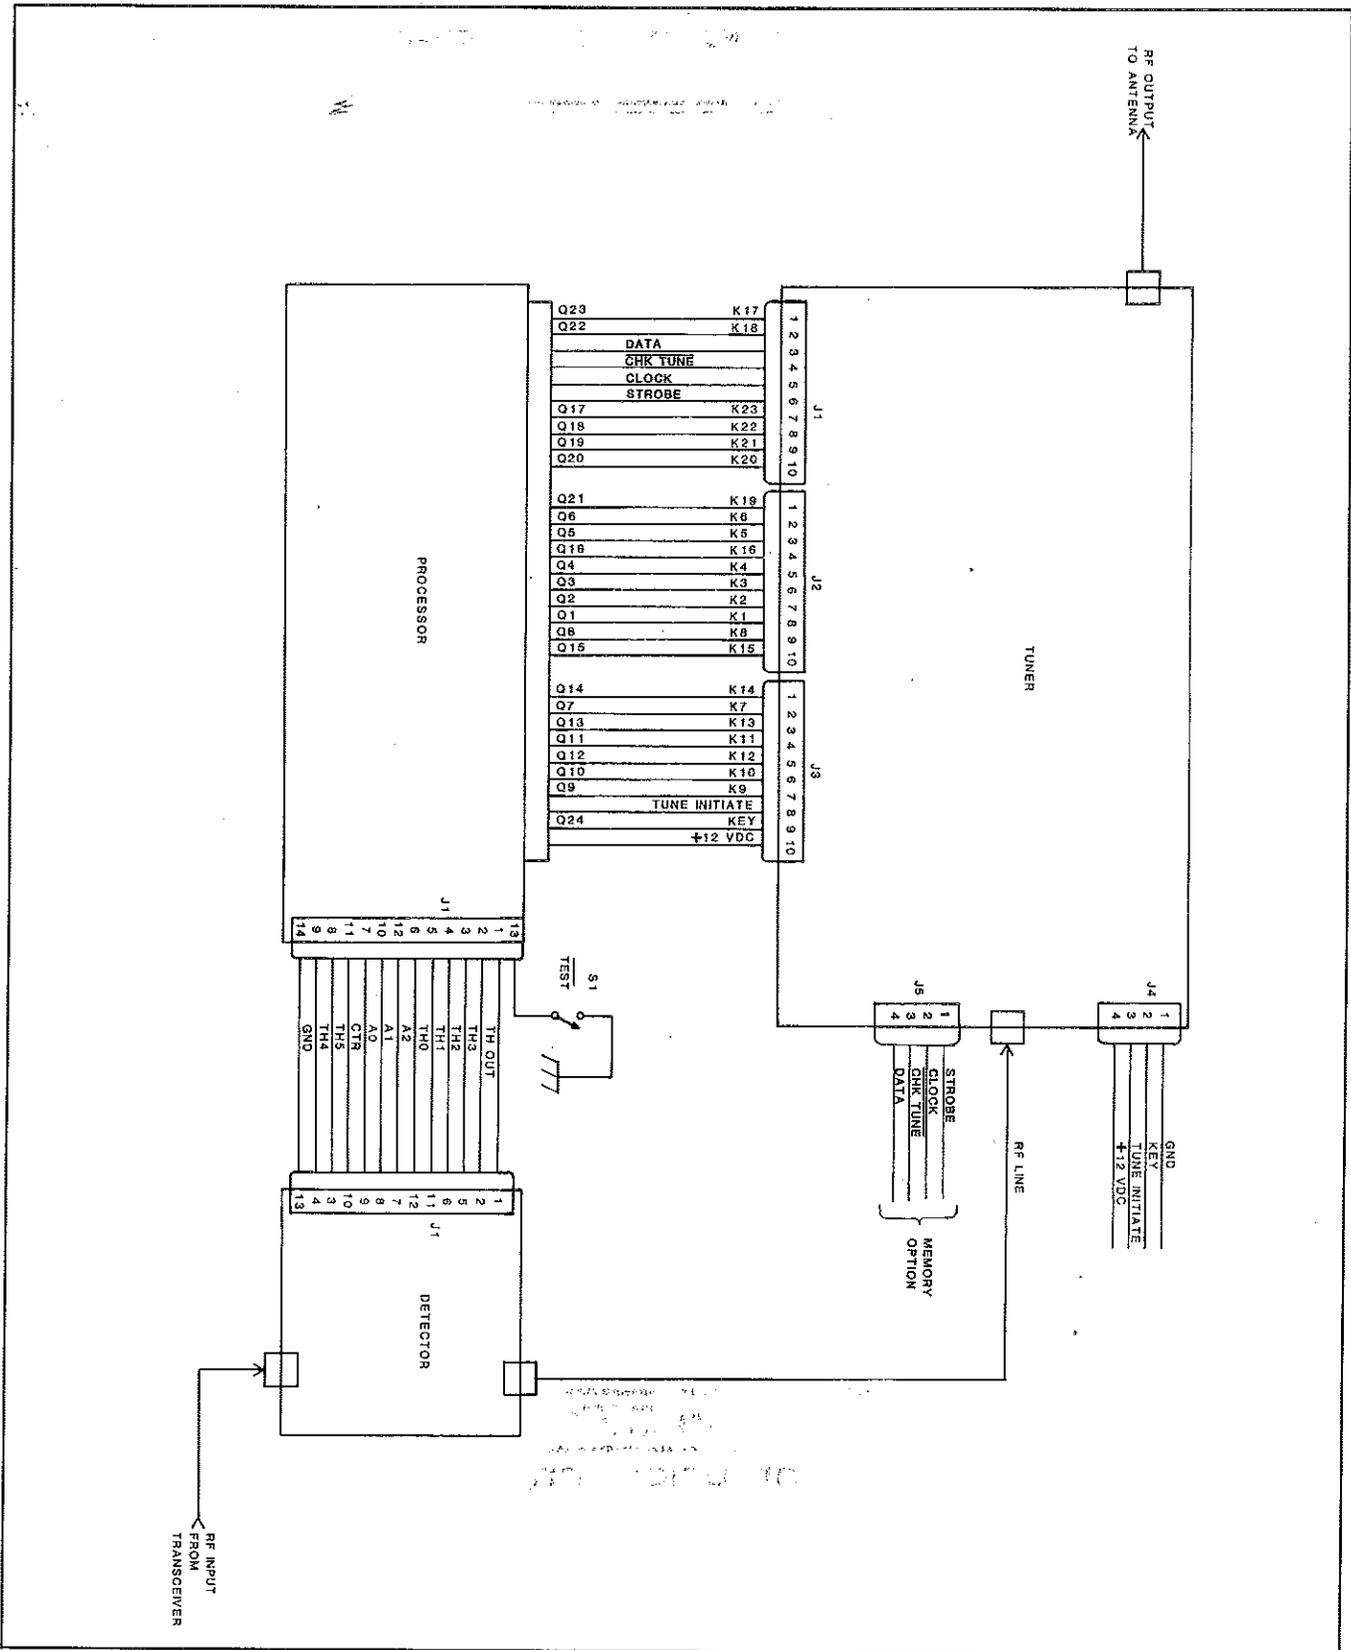

FIGURE 6.
- d. The overall wiring diagram for the antenna tuner is shown in Figure 6.